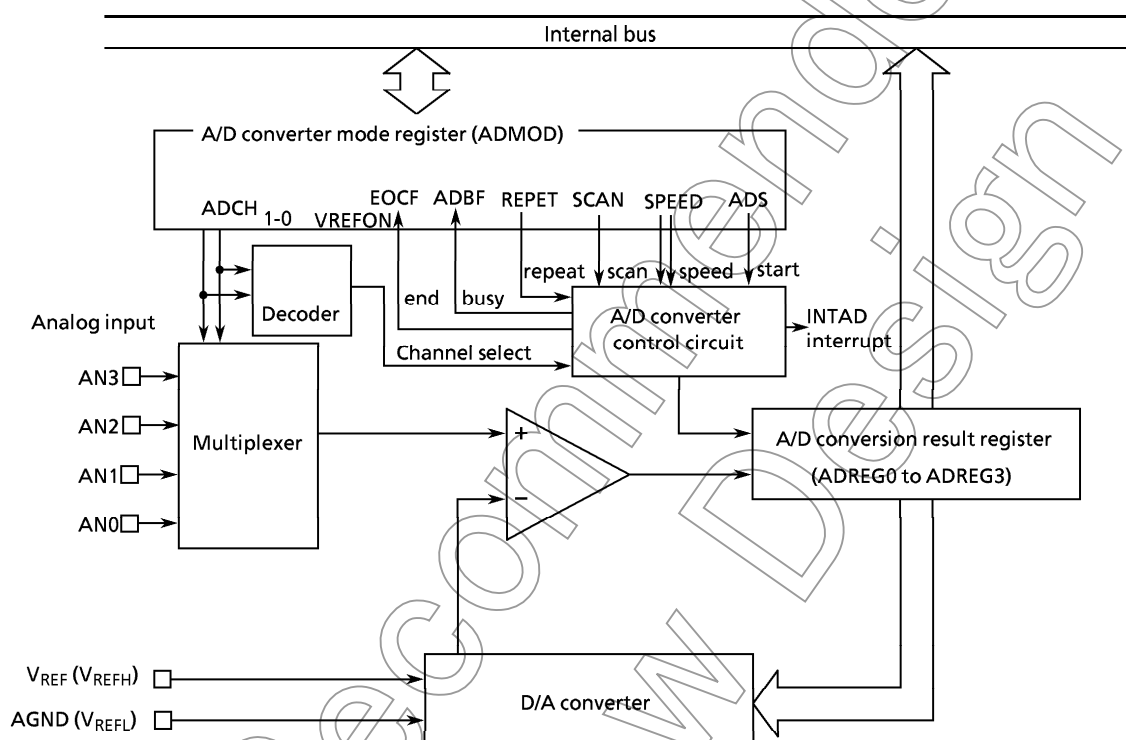

Figure 3.12 (1) Block Diagram of A/D Converter
Figure 3.12 (1) shows the block diagram of the A/D converter. 4-channel analog input pins (AN3 to AN0) are shared by input-only port P9 and so can be used as input port.